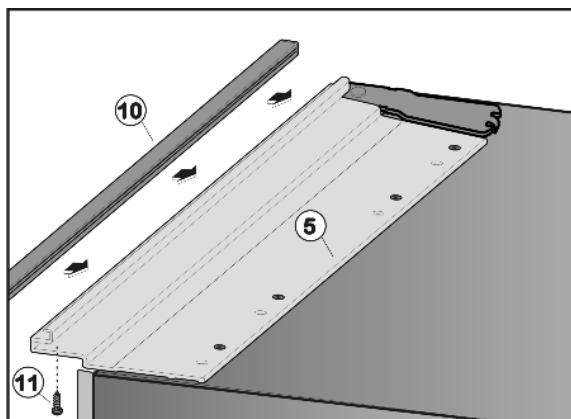

Fig. 40
- Position end strip *Fig. 40 (10)* over the installation contour *Fig. 40 (5)* and align it such that the holes in ventilation grille and installation contour are above each other.
- Screw end strip *Fig. 40 (10)* to installation contour *Fig. 40 (5)* from below using three screws *Fig. 40 (11)*.